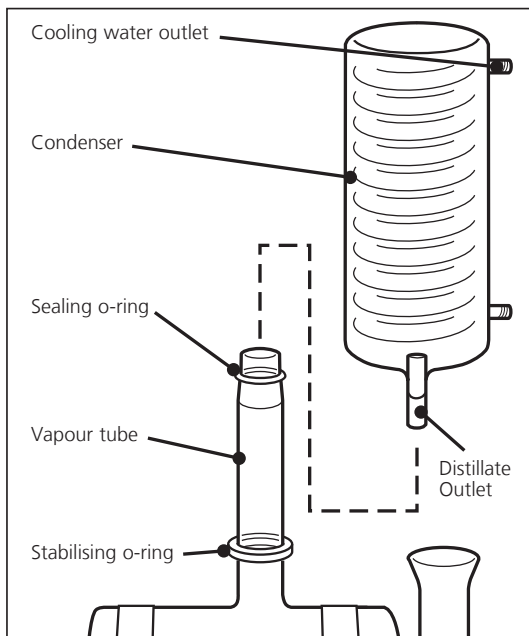

Fig. 1a
5. Ensure that the sealing O ring and the stabilising O ring are correctly positioned on the vapour tube of the boiler. Fit the condenser (Fig. 1, item 4) to the vapour tube ensuring that the distillate outlet faces the front and the two water connections are parallel to the unit Fig 1a. When slight resistance is felt when fitting the condenser, press down slightly on the top of the condenser until a gap of approximately 19mm exists between the condenser and the boiler.
6. Take the 1m length of 8mm hose from hose kit I/WH48/1/B and connect one end to the distillate outlet of the condenser (Fig. 1a). Secure with a tie wrap. Pass the other end of the tube through the cabinet hole, Fig. 1, item 21 if to be wall mounted, or hole, Item 16 if bench mounted.